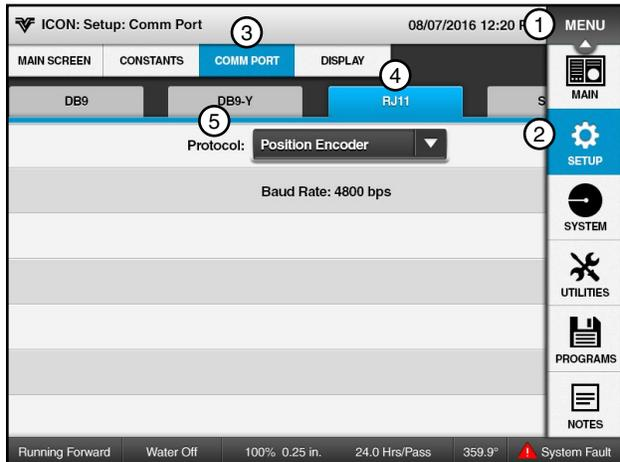

Figure 40-1
- (b) Select the **RJ11 Protocol** field and choose **Position Encoder** from the list. See Figure 40-1.